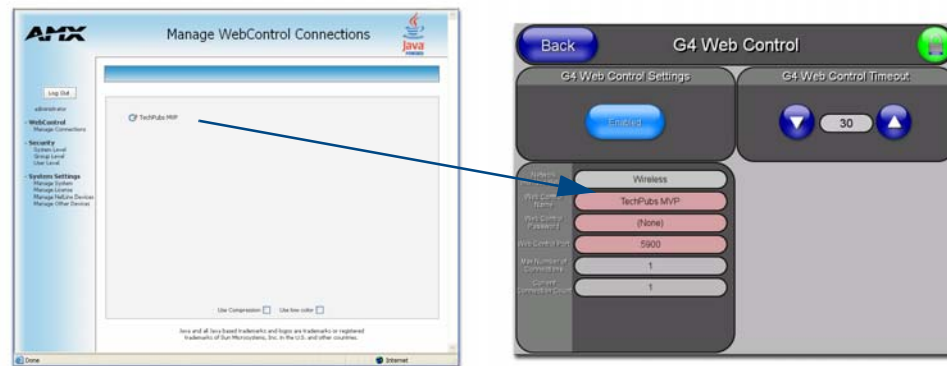

FIG. 43 Sample relationship between G4 Web Control and Manage WebControl Connections window
9. From the Web Name keyboard, enter a unique alpha-numeric string to identify this panel. This information is used by the NetLinx Security Web Server to display on-screen links to the panel. *The on-screen links use the IP Address of the panel and not the name for communication (FIG. 43).*